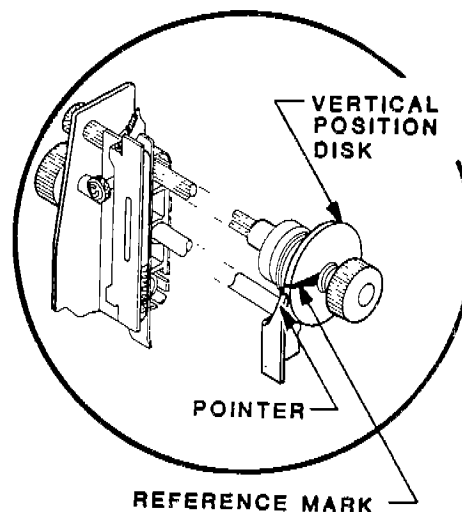

FIGURE 2-6.
6. Rotate the Vertical Positioner Knob one revolution backward, lowering the paper until the reference mark is again aligned with the pointer, see Figure 2-6. This positions the TOF at the print station.